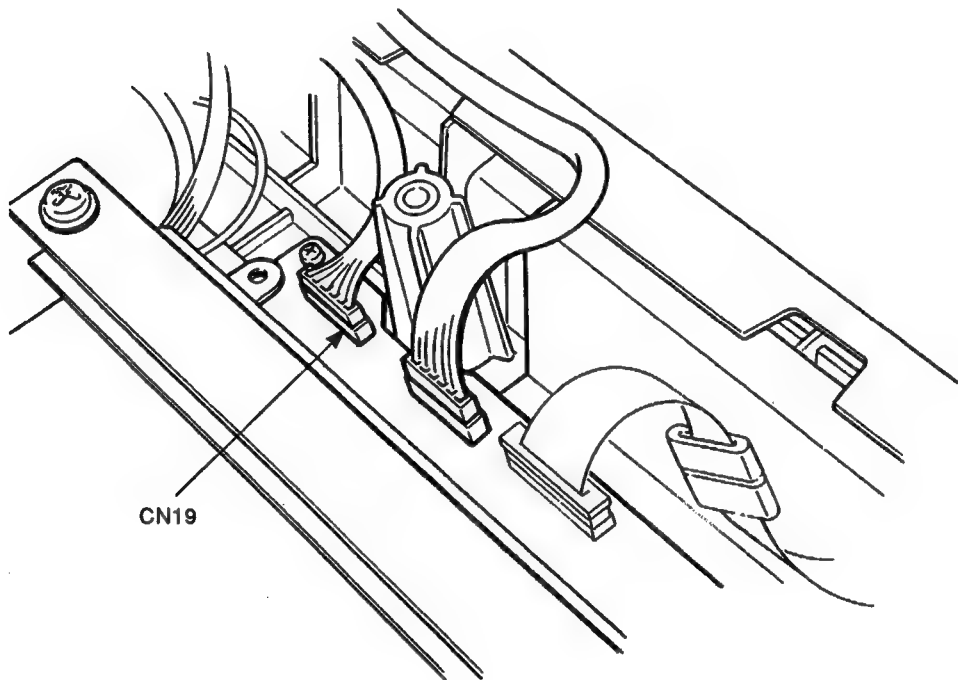

Figure 3-51 Connector CN19
1. Disconnect CN19 from the mother board (see Figure 3-51).